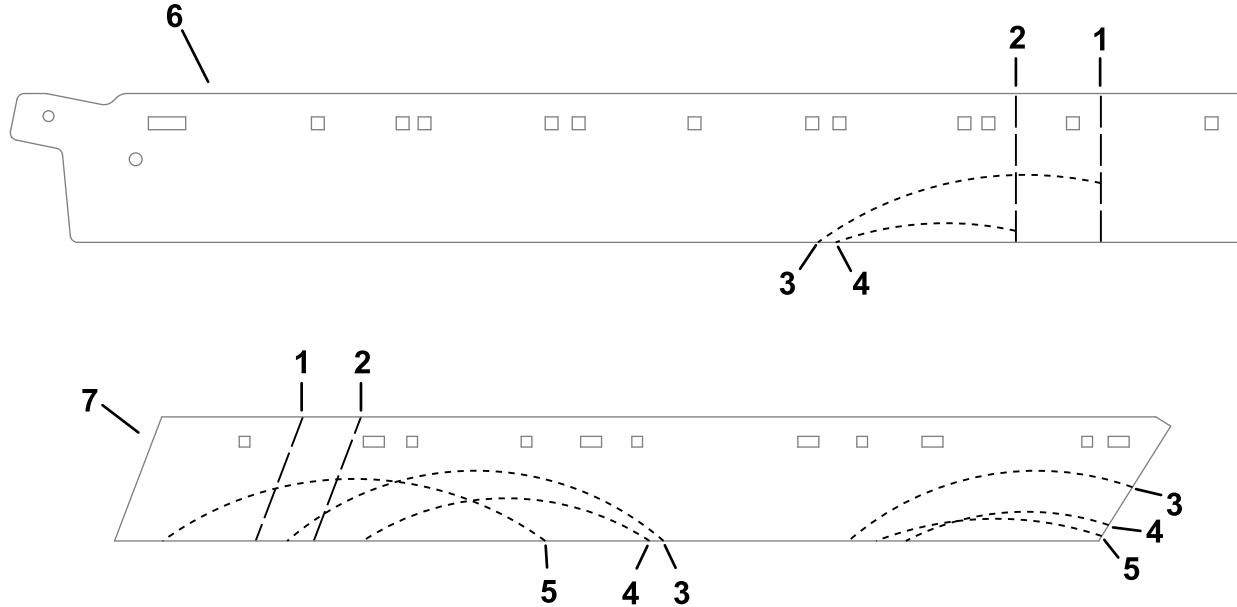

Figure 1
1. Cut the rubber baffle lengths to fit your specific deck size as shown in Figure 1. Trim the baffles at the first marking for 52 inch decks or at the second marking for 48 inch decks.
2. Locate the cutting arcs that corresponds to your deck size and trim it along the shape of the corresponding arcs (Figure 1).